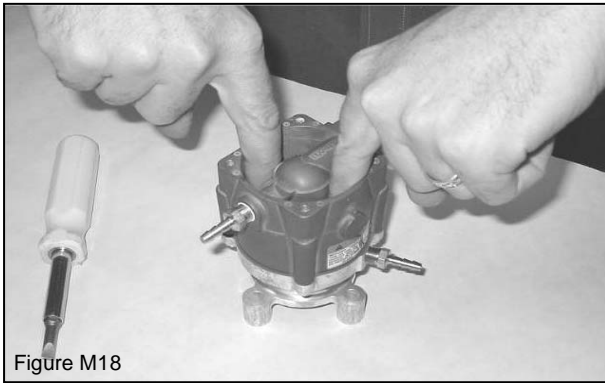

Figure M18
3. Check for free travel of the mixer's piston diaphragm assembly by pushing the piston diaphragm downward (Figure M18). If you detect any binding, loosen the retaining screws, re-align the gasket and re-tighten the retaining screws. Check for binding again, if the piston assembly moves freely, re-torque the fasteners and continue.